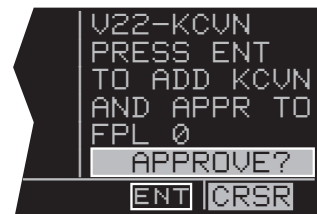

Figure 6-18
1. Load the approach into the flight plan as described in section 6.1.1. In this case there is only one IAF so the KLN 900 does not present the option for you to select an IAF. In this example, there is no active flight plan to begin with so the KLN 900 will ask to add the airport and the approach to FPL 0 (figure 6-18).